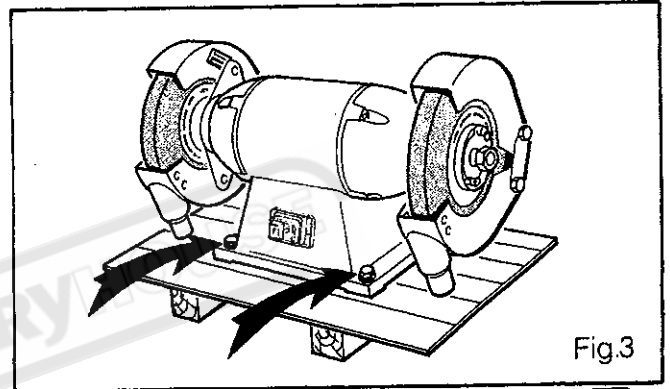

Fig.3
- 4 Machine base was fixed to wooden pallet. Loosen these 4 fixing bolts as figure 3 before it can be moved.